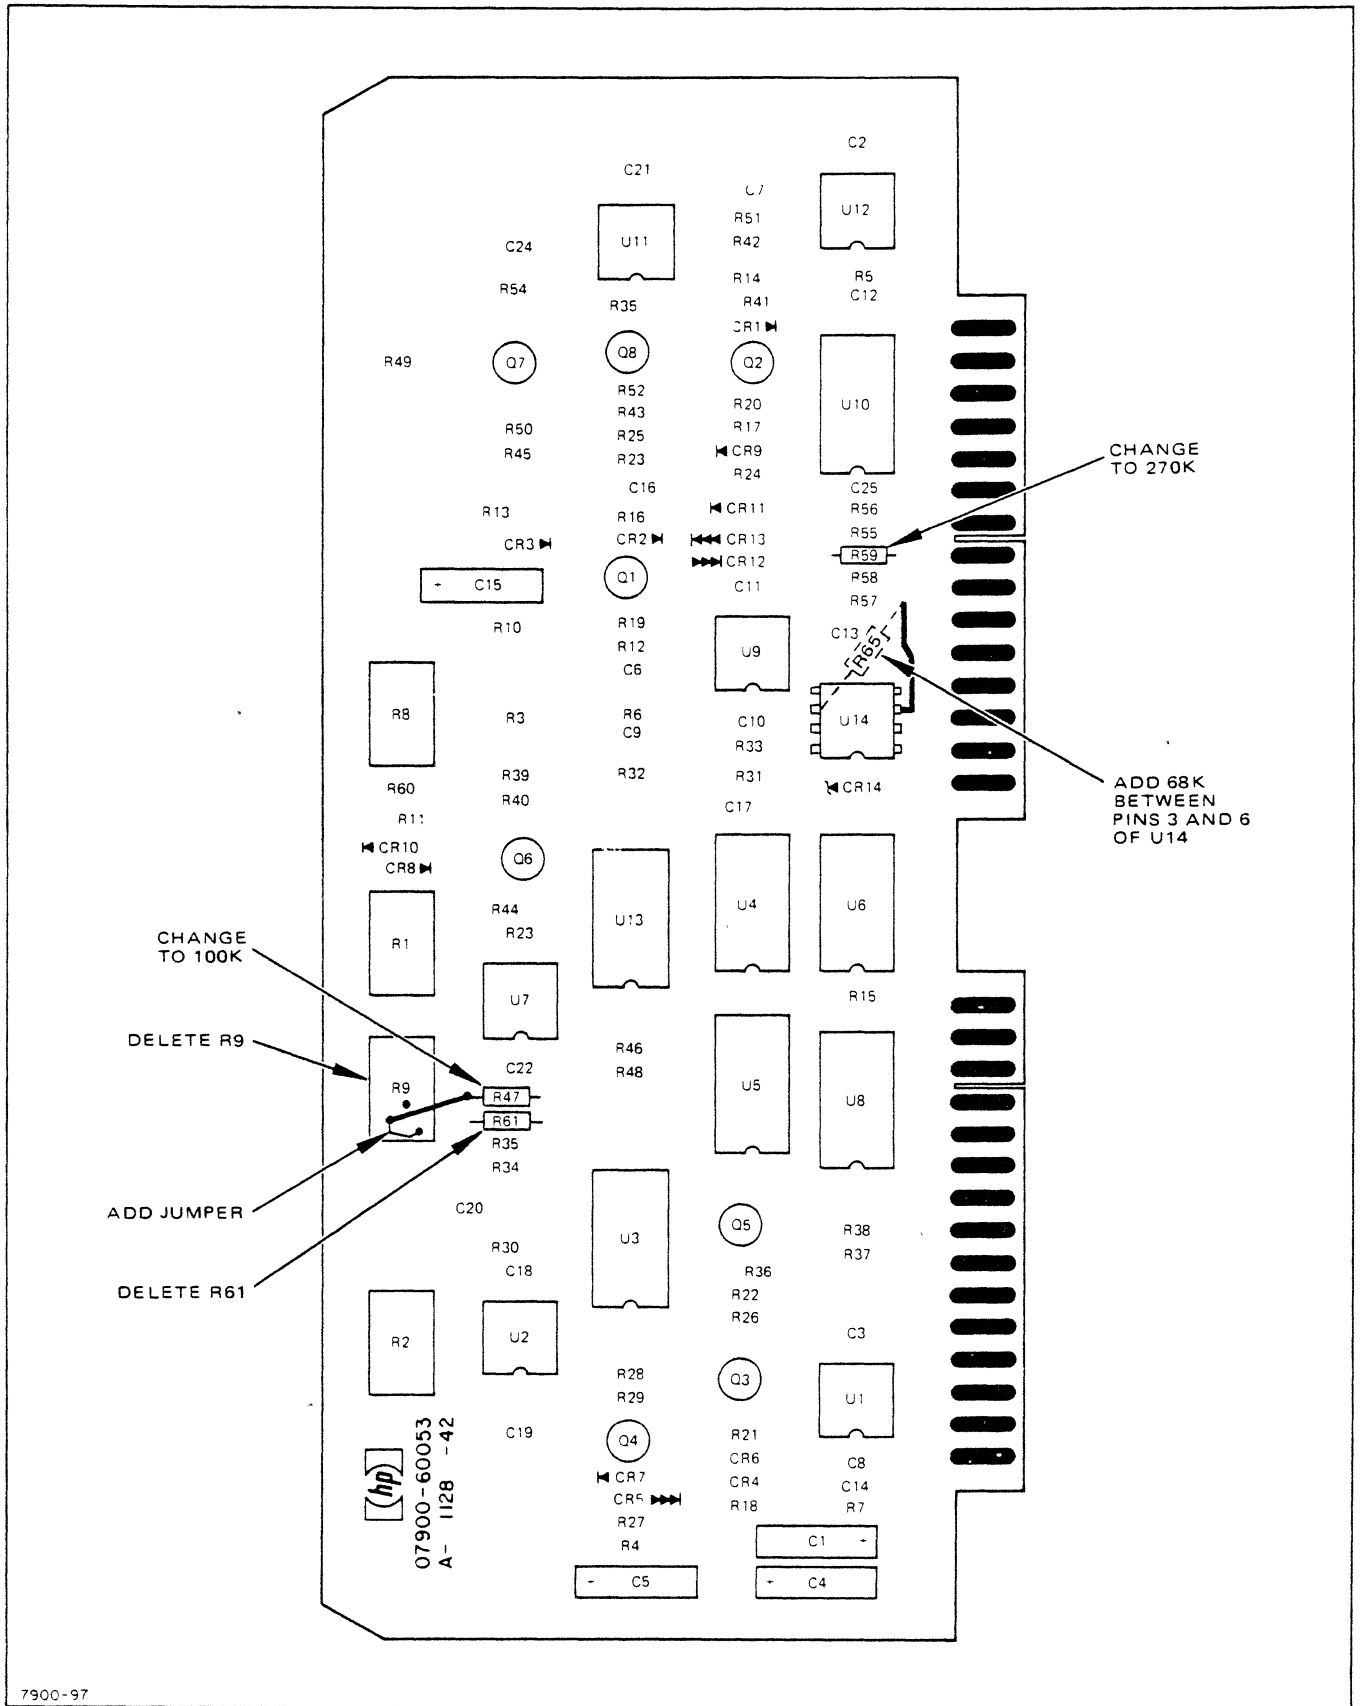

Figure 1 Encoder Assembly A12 Parts Location Diagram
2. Replace R 59 with a 270K resistor. See Figure 1.
3. On the solder side of the board, attach a 68K Resistor between pins 3 and 6 of U14. See Figure 1.
4. See Figure 1. Delete R9 and R61. Replace R47 (90.9K) with a 100K Resistor.
5. On the circuit side, add a jumper between R47 and U7 pin 6. See Figure 1.